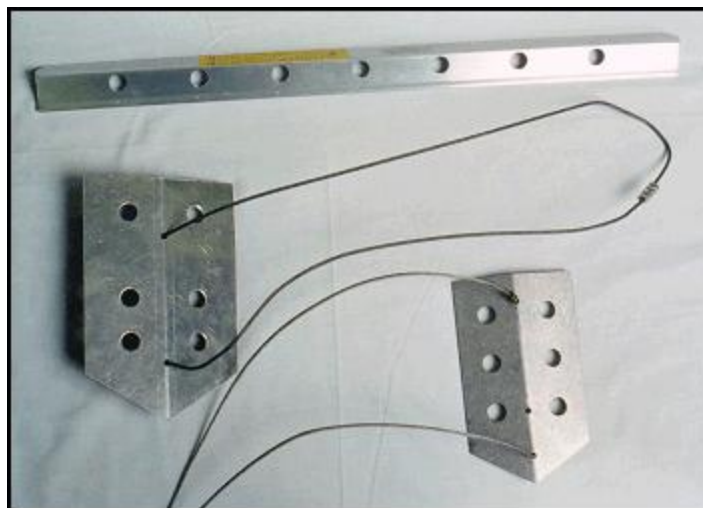

Figure 3-28. Snow anchors, flukes, and pickets.
f. **Wired Snow Anchors.** The wired snow anchor (or fluke) provides security for climbers and equipment in operations involving steep ascents by burying the snow anchor into deep snow (Figure 3-28). The fluted anchor portion of the snow anchor is made of aluminum. The wired portion is made of either galvanized steel or stainless steel. Fluke anchors are available in various sizes—their holding ability generally increases with size. They are available with bent faces, flanged sides, and fixed cables. Common types are:
g. **Snow Picket.** The snow picket is used in constructing anchors in snow and ice (Figure 3-28). The snow picket is made of a strong aluminum alloy 3 millimeters thick by 4 centimeters wide, and 45 to 90 centimeters long. They can be angled or T-section stakes. The picket should be inspected for bends, chips, cracks, mushrooming ends, and other deformities. The ends should be filed smooth. If bent or cracked, the picket should be turned in for replacement.